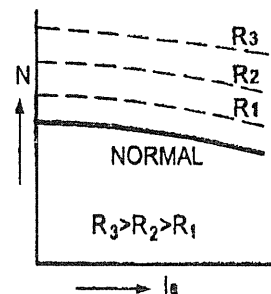

FIG. 4.42 : SPEED-ARMATURE CURRENT CHARACTERISTIC
- Fig. 4.42 shows the speed V/S armature current characteristics. When no resistance is connected in the armature circuit, the curve marked normal is obtained.